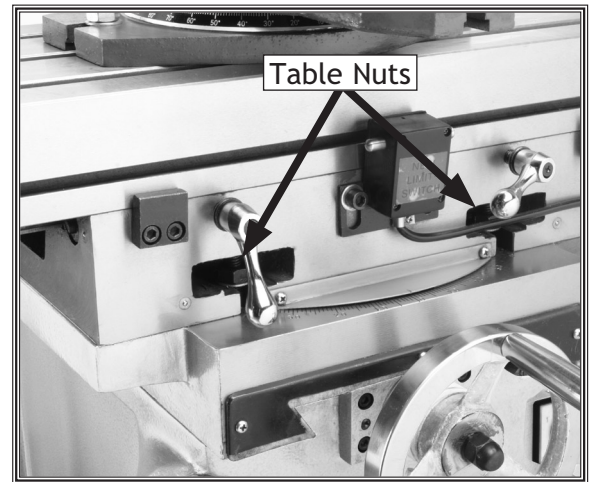

Figure 21. Front two table nuts.
3. Loosen the four table nuts, two in front and two in back, to free the table for rotation (see **Figures 21 & 22**).